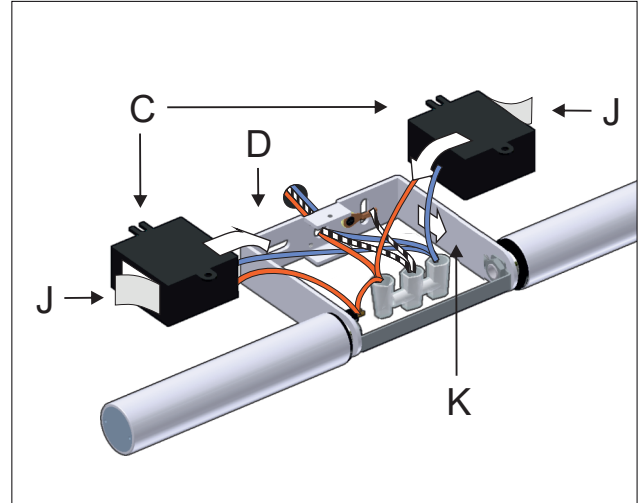

Figure 5
5 - Remove the protector from the double-faced adhesive tape (J) and fix the drivers (C) to interior the sides (K) of the mounting bracket (D), as far as possible from the wall. Try to leave them vertically centered so that the drivers do not protrude from the mounting brackets. Figure 5.